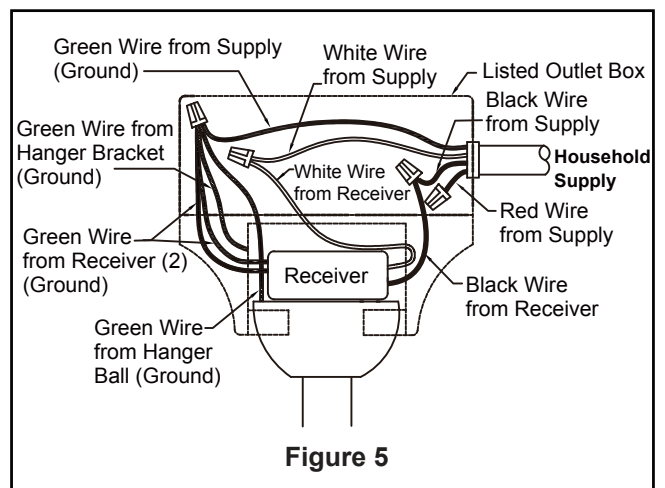

Figure 5
- 5. Slide downrod into the downrod support on top of the motor. Install the clevis pin by aligning the holes in the downrod support with holes in the downrod. Secure clevis pin with hairpin clip. Install the two set screws with nuts in the downrod support. Securely tighten the set screws with screwdriver then fully tighten the nuts using a hex wrench. (Figure 5)
4. After connections have been made, put the white and green leads to one side and the black leads towards the other side, the connection should be turned upward and carefully push leads into the outlet box. The wires should be spread apart with the grounded conductor and the equipment-grounding conductor on one side of the outlet box and the ungrounded conductor on the other side. (Figure 5)
5. Install two 3V batteries in hand-held remote transmitter, with fan power off. (Figure 5)